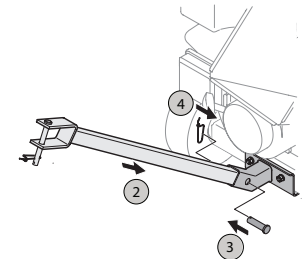

Figure 4
2. Insert the tow bar into the receiver. See Figure 4.
3. Reinsert the clevis pin through aligning holes in both the tow bar and the receiver. See Figure 4.
4. Fasten with the spring pin to secure. See Figure 4.